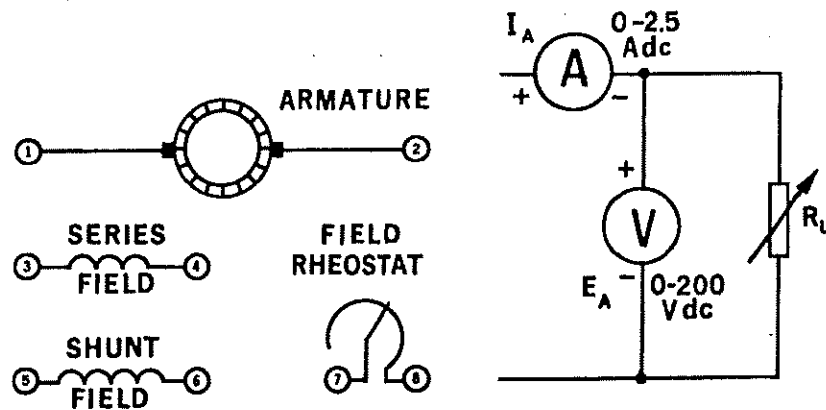

Figure 9-3.
- b. Complete the drawing shown in Figure 9-3 showing your proposed circuit change.